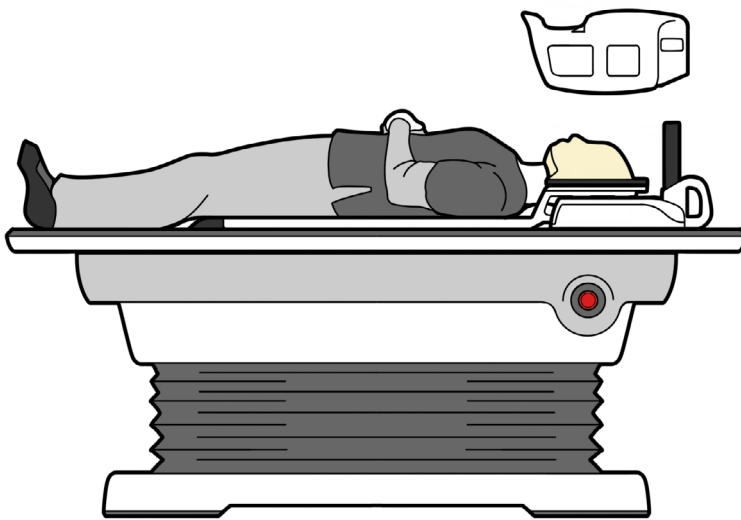

Figure 14
2. Press the Height Adjustment Button to lift the Top Coil away from the patient leaving the Top Coil attached to the Bottom Coil (Fig. 14 & 15).